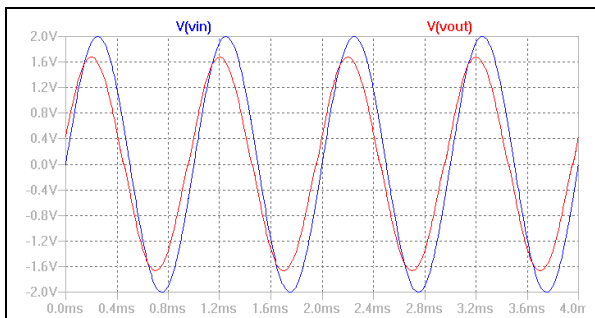

Fig 3.14: Transient simulation of the class AB push-pull amplifier.
8. Now reset VSIN to a 2 V amplitude and observe the transient output at the source and across the load. This should appear as Figure 3.14.